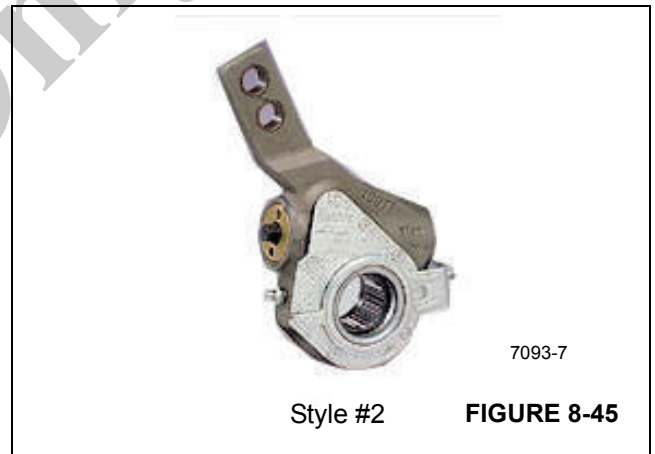

**FIGURE 8-44**
See (Figure 8-43) and (Figure 8-44), Free Stroke Measurement. Pull pawl must be disengaged before rotating adjusting nut. Pawl teeth will be damaged if not disengaged. Pry on the pull pawl at least 0.8 mm (0.0313 in) to disengage the teeth. When the pry bar is removed, the pull pawl will re-engage immediately.
14. Disengage the pull pawl (Figure 8-44).
15. Turn the adjusting nut approximately 3.1 mm (0.1250 in) turn in the direction required and re-measure the stroke. Continue this process until the stroke is within limits (Figure 8-44).